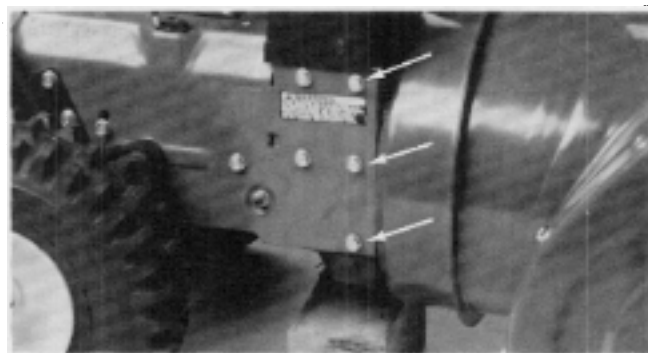

Figure 99
4. Before separating the front housing from the snowthrower frame, support the rear of the front housing (that houses the impeller) with blocks. This will prevent the unit from falling when the fasteners are removed. Remove the six cap screws that fasten the front housing to the frame and separate the two halves. See Figure 99.